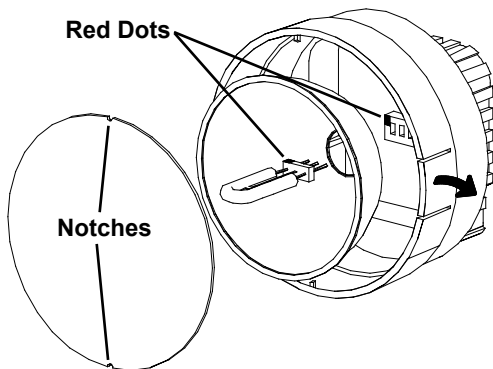

Figure 4 Lamp Replacement
while pushing it into place (see Figure 4). Make sure the lamp is in straight and centered in the reflector hole.
4. Reinstall the reflector and then position the front lens in place matching up the notches on the lens with the two small tabs on the housing to prevent lens rotation (see Figure 4). Push the tabs on the front rim outward and press the lens into place.
The AC Powered stroboscope has a replaceable fuse inside the unit, which may be accessed by removing the lens and reflector - refer to Figure 4. If the fuse needs to be replaced, replace only with a fuse of the same type and value: Fast Blow - 750mA, 2AG.